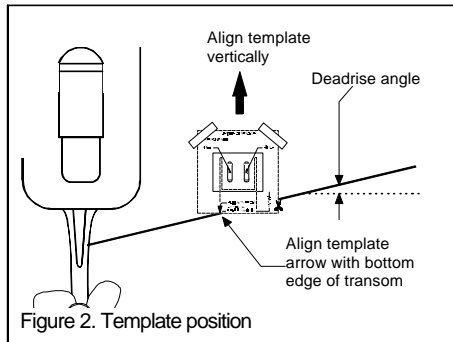

Figure 2. Template position
2. Cut-out the template printed on last page. At the location selected, position the template so that the arrow at the bottom is aligned with the bottom edge of the transom. Being sure the template is parallel to the water, tape it in place (see Figure 2).